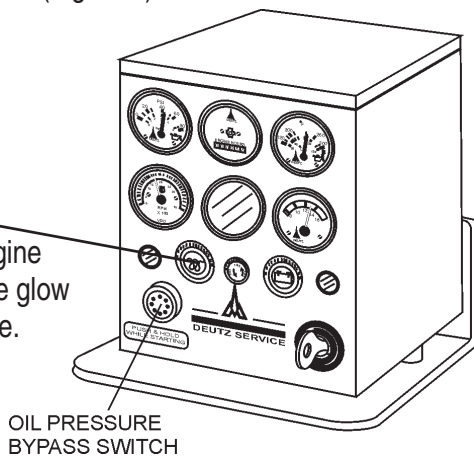

Figure 8. Control Box (Old Style)
1. Insert ignition key into the ignition switch located on the control box (Figure 8)